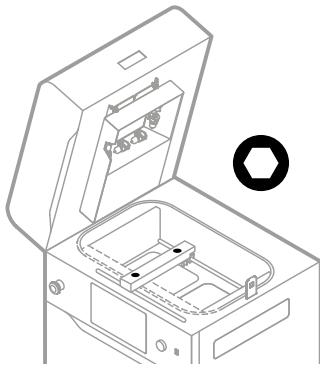

Fig. 13.93 Position the Recoater and unscrew the Recoater cover.
7. Using a 2 [mm] allen key, unscrew both screws on the Recoater cover and take it off (fig. 13.93).